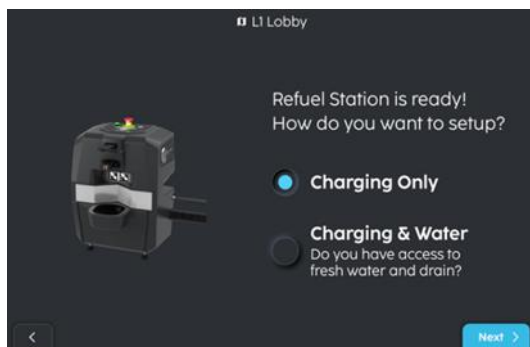

FIGURE 3-11
7. Once detected, choose to setup station for 'Charging Only' or 'Charging & Water' (Fig 3-11). Note that clean water inlet and waste water drainage pipes are installed properly if 'Charging & Water' is selected as robot will auto refill clean water and drain waste water at the Refuel Station.